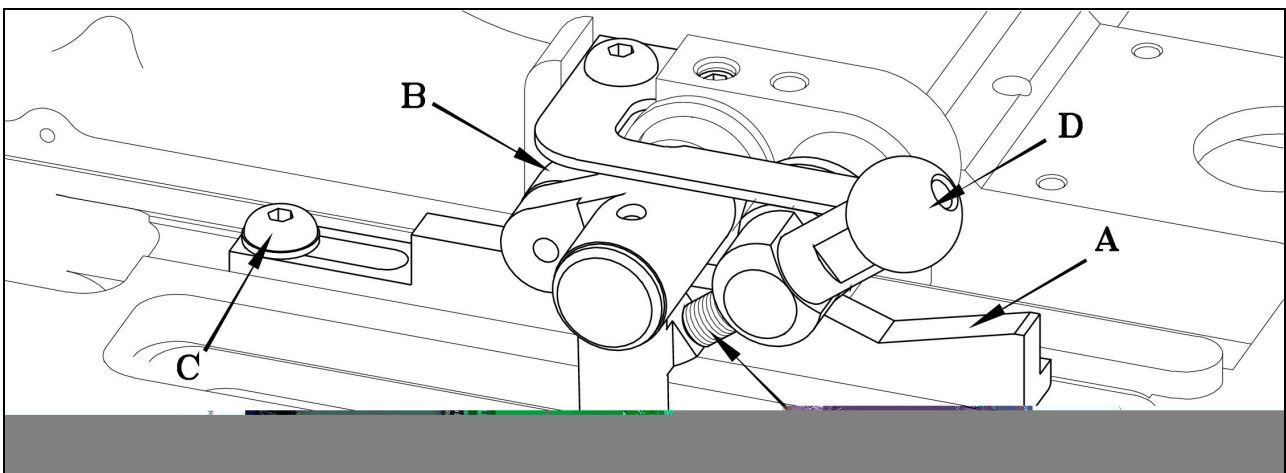

Fig 1
Roller (B) should lightly touch the surface of the stitch wedge as shown in Fig 1. Adjust the screw (E) to raise or lower the height of the roller.
The adjustment in Fig 1 can be set for either the cut after or cut before mode. This changes the stitch bite and cutting space. The cut after mode sets the machine for the standard stitch bite of 2.4mm and cutting space of 0.3mm.